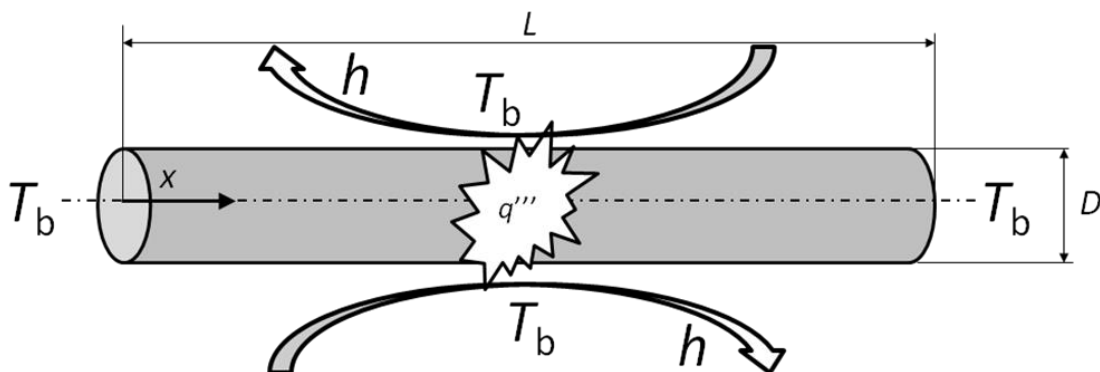

Fig. 3
- 3) A cylindrical copper rod (diameter $D = 0.01 \text{ m}$, length $L = 4 \text{ m}$) transports a current $I = 1 \text{ kA}$. The rod (see Fig. 3) is immersed in (and cooled by) a liquid Nitrogen bath at $T_b = 77 \text{ K}$ (heat transfer coefficient $h = 500 \text{ W/m}^2/\text{K}$). The two boundaries are kept at constant temperature $T = T_b$. Compute numerically the steady state temperature distribution along the rod in a script named **ES3_yoursurname.properextension** and plot the temperature along the rod in a figure, to be saved as **ES3_yoursurname_plot.properextension**.